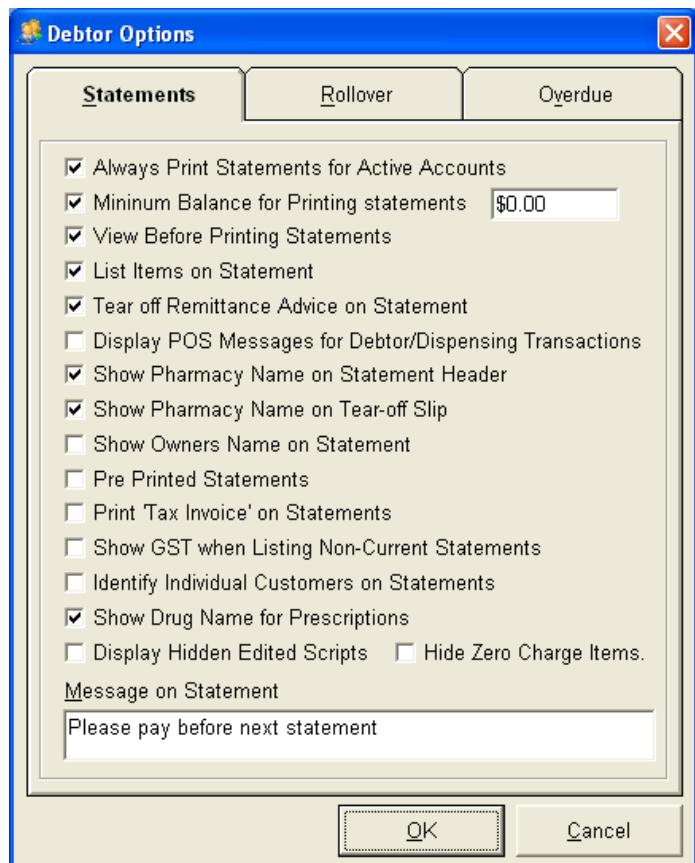

Figure 321
2. The Debtor Options screen will appear (as shown in Figure 321).